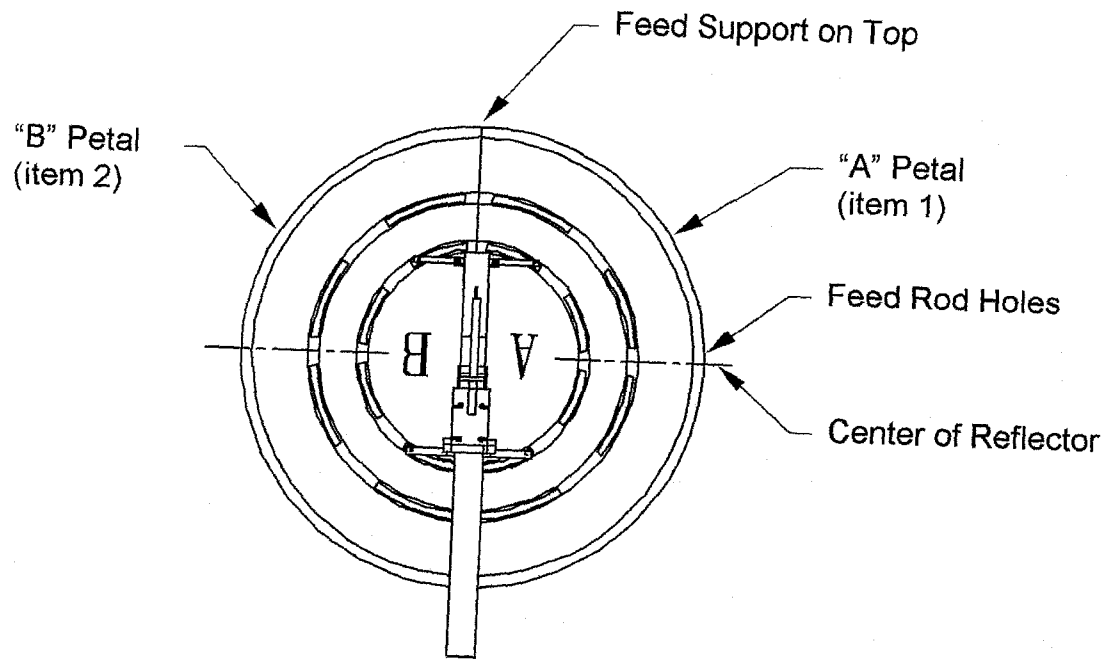

Figure 2
However, to achieve a lower profile installation or in areas of high snow accumulation, the reflector can be assembled inverted (feed support on top) with the "B" petal on the left side and the "A" petal on the right side – See Fig. 2. Please note that in either situation, the angled cross arm (item 8) must be oriented for the correct position – See Fig. 3.